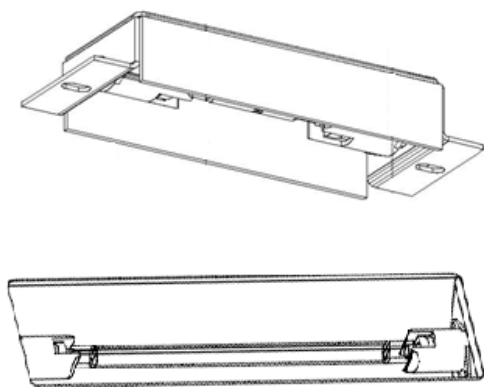

Figure 5.1a
**Solution** : replace lamp (see figures 5.1a and 5.1b)
3. Remove the broken lamp by moving it in the length-direction of the lamp holder (see figure 5.1a ).